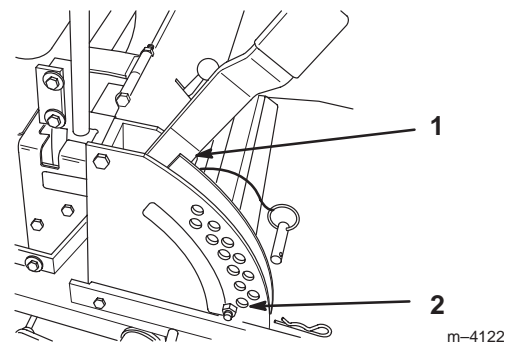
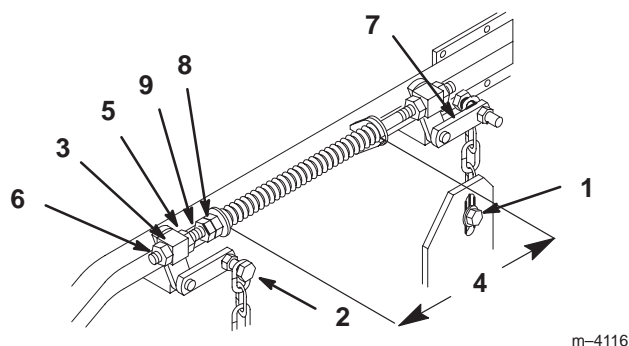

Figure 49
Figure 50
4. Raise the deck to the transport position (Fig. 49). Take force off of the two large deck lift springs by loosening the jam nut and front spring nut, in front of each spring, as far as possible (Fig. 50).
5. Place 2 thick blocks (1-3/8 in. [35 mm]) under the rear left and right lower edge of the mower. Place 1 block (1-3/4 in. [44 mm]) under the front center lower edge of the mower, not under the anti-scalp roller brackets. Lower the mower to the 1-1/2 in. (38 mm) height-of-cut position (Fig. 49).
6. Loosen the bottom chain bolt in the slot at the rear of the deck. Repeat for the opposite side (Fig. 50).
7. Loosen the front and rear locking nut on either side of the front swivel. Loosen until the front chains are loose and the deck is supported by blocks. Repeat for the opposite side (Fig. 50).
8. When the hardware is loosened, the remaining tension in the large support springs will tend to rotate the deck lift handle up, out of the 1-1/2 in. (38 mm) position. Press down on the rear deck support arm to firmly return the deck lift handle to the 1-1/2 in. (38 mm) position (Fig. 50).
9. While continuing to press down on the rear deck support arm, take the slack out of the rear chain and tighten the hardware at the bottom (Fig. 50). Downward pressure may now be released. Repeat for the opposite side.
14. Raise the deck lift lever to the transport position (Fig. 49).
15. Adjust the compression springs by turning the front spring nuts so that the distance between the two large washers is 10-1/4 in. (260 mm); then tighten the jam nut (Fig. 50).